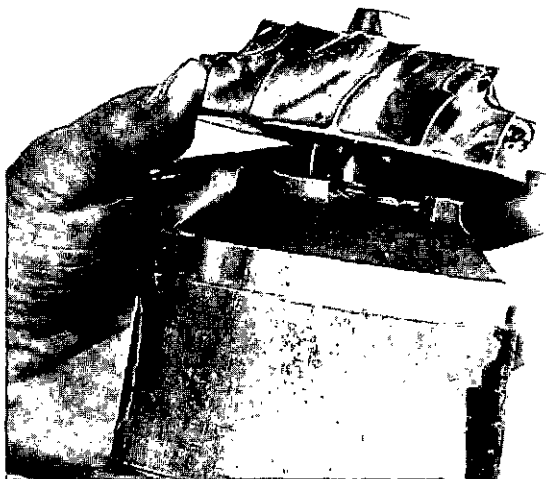

Fig. 2-6, (T3514). Installing the turbine wheel & shaft into the bearing housing
2. Insert the turbine wheel and shaft into the bearing housing, Fig. 2-6.